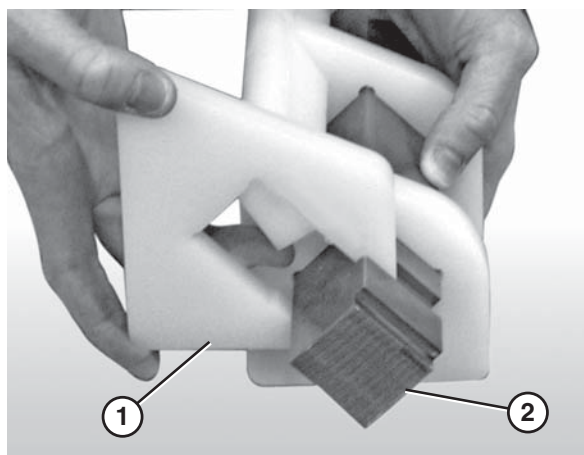

Figure 65
3. Attach the nose bar tracking pucks (**Figure 65, item 1**) to the nose bar drive post (**Figure 65, item 2**).